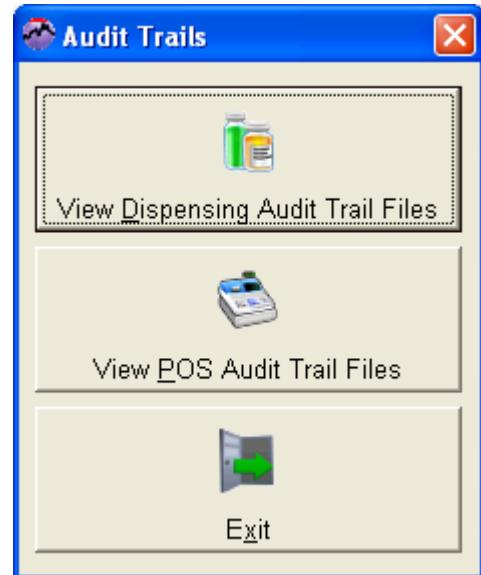

Figure 358
2. This will display the 'Audit Trails' window (see Figure 358).